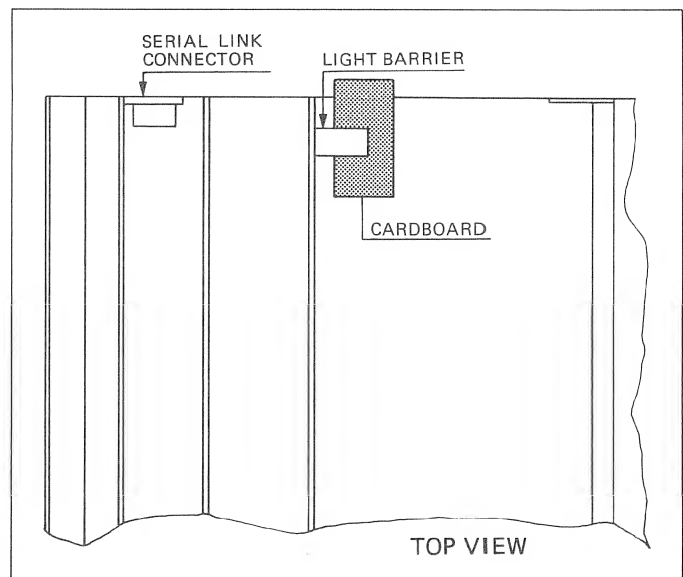

Fig. 4.13
- Cover rear light barrier that controls the drawer position detection on SERVO 1 PCB 1.769.310 with a piece of cardboard (see Fig. 4.13).